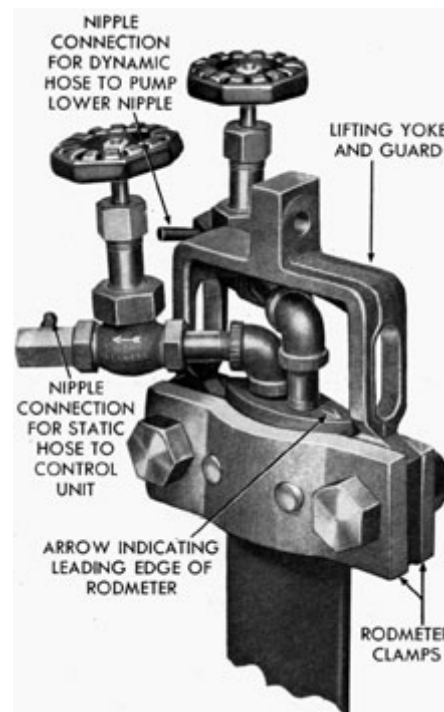
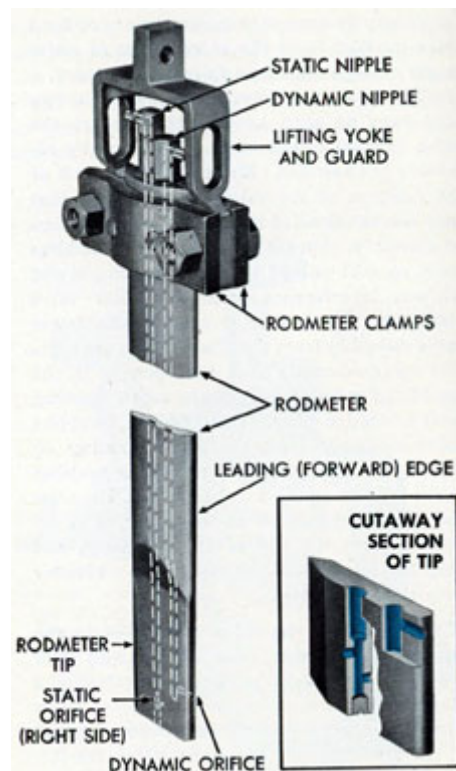

Figure 5-3. Rodmeter with valves installed.
Figure 5-4. Cutaway view of Pitometer rodmeter.
rodmeter (see Figure 5-3), instead of the conventional nipple installation as shown in Figure 5-4. This necessitates a different procedure for removing and installing the clamp and guard assembly. These two procedures will be covered in the following operations.
**5C3. Removing the clamp and guard assembly (nipple installation).** (See Figure 5-4.) Loosen the hose clamps and remove the two lengths of hose from the nipples on the upper end
Loosen the two hose clamps (one on each hose) that secure the ends of the hose to the nipples provided on the valve assemblies at the upper end of the rod meter (Figure 5-3). Remove the hose and clamps. Remove the two bronze nuts and bolts that secure the two clamps and the guard to the top of the rod meter, and remove the clamps. Raise the
**5C5. Installing the valve assemblies in the top of the rodmeter.** (See Figure 5-3.) The spare rodmeter is equipped with nipples and a clamp and guard
**5C6. Installing the clamp and guard assembly.** (See Figure 5-4.) The two clamps and the guard are stamped at their ends. These numbers should be adjacent to one another when these pieces are assembled on the rodmeter. Place the two clamps around the upper end of the spare rodmeter in such a manner that the clamps are over
**5C7. Installing the spare rodmeeter.** (See Figure 5-4.) The following procedure should be used in installing the rodmeeter: